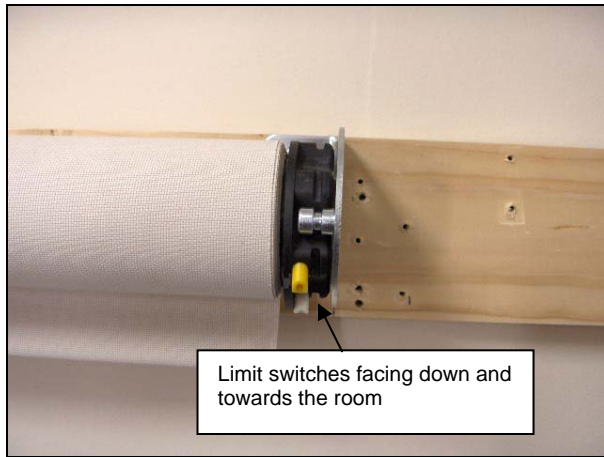

Figure 21 Motor in Bracket
- Allow the shade to slide back so that the Star Head on the motor engages the pins on the motor bracket. See Figure 21.